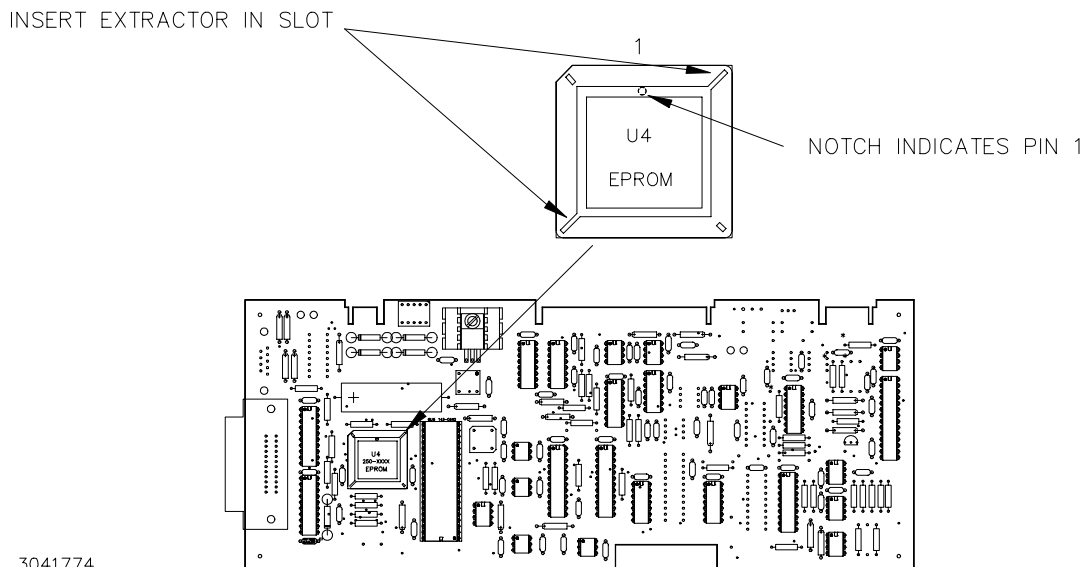

FIGURE 2. PROM LOCATION
4. A brown IC socket located towards the rear of the unit contains the PROM. Locate the small depression or notch in the PROM as shown in Figure 2. This is pin 1 of the PROM.
9. Insert the PROM into the socket, insuring pin one is as shown in Figure 2.